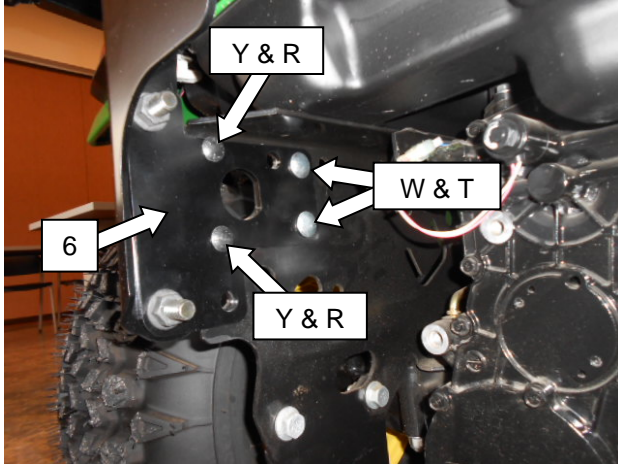

Figure 4
- 8) Install rear mount plates (6) to the inside surface of the machine's frame plates. Secure each plate using **(Figure 4)**;